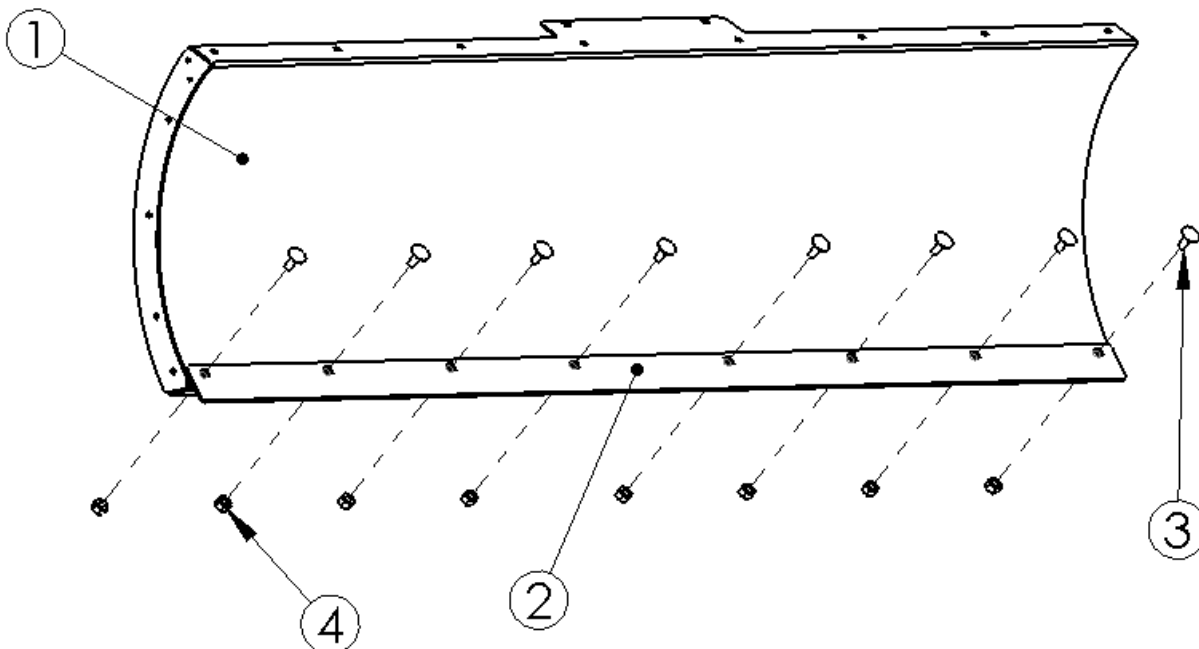

Figure 2
- a. (1) Blade (#1)
- b. (1) Wear Bar (#2)
- c. (1) Hardware bag (see above item list)
- 2) Install the Wear Bar (#2) to the bottom of the Blade (#1) using the 3/8" Carriage Bolts (#3), and Nylock Nuts (#4) included in your kit, see **(Figure 2)**. The Carriage Bolts may need to be pushed in only part of the way until the Nylock nut has been started as the bottom horizontal stabilizer bar is in close proximity. You also may need to use an open-ended wrench to gain access for tightening. **Installation Tip:** Tighten the bolts from the center out. This step of the install takes the most time.